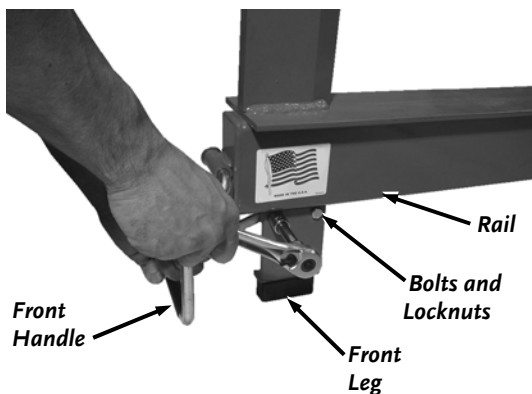

Figure 13
3. Unfold the Front Handle from under the Rail (**Figure 13**).